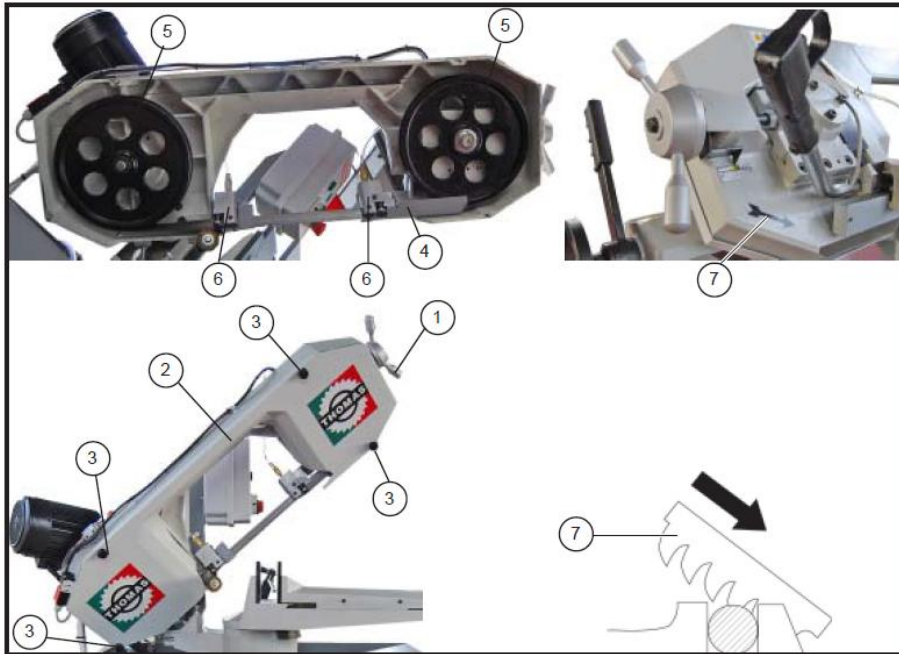

Fig. 9-11
- b) Release the blade tension by turning the hand wheel (1 fig. 9-11) anti-clockwise.
- c) Open the sawframe cover (2 fig. 9-11) by releasing the black plastic knobs (3 fig. 9-11).
- d) Remove the mobile blade-guide protection (4 fig. 9-11).
- e) Remove the blade off the flywheels (5 fig. 9-11) and blade-guide blocks (6 fig. 9-11).
- f) Mount the new blade first inserting it through the blade-guide and then placing it onto the flywheels, making sure that the blade teeth direction is according to 7 fig. 9-11.
- g) Put the blade under tension by turning the hand wheel (1 fig. 9-11) clockwise and making sure that the blade perfectly seat on the flywheels.
- h) Mount the mobile blade-guide protection (4 fig. 9-11) and close the sawframe cover with the knobs (3 fig. 9-11). Doing so, the relevant interlock switch is activated, otherwise the machine could not start.